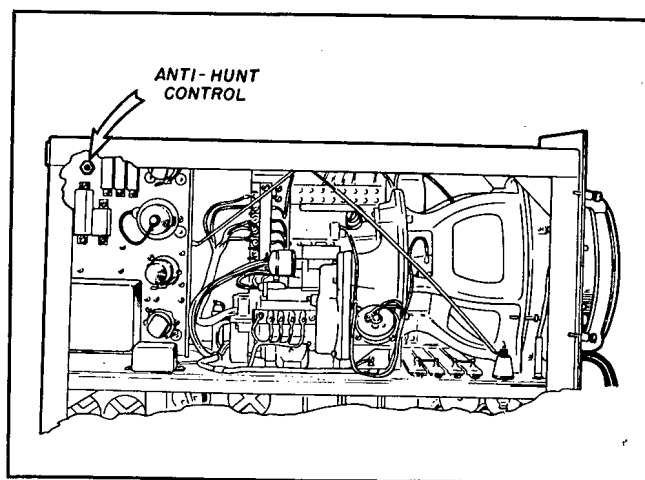

Figure 3-50. Anti-Hunt Control on PPI Indicator
(21) Adjust the anti-hunt potentiometer, R-590, for minimum amplitude on the oscilloscope. Lock the control. This control is shown in Fig. 3-50.
(22) Connect the test oscilloscope between test point J-528 and ground.
(23) Rotate the shaft of the drive motor until the amplitude of the 60-cycle pattern on the test oscilloscope is zero. Note the position of the trace on the PPI scope with respect to the azimuth scale.
(24) Rotate the drivemotor shaft until the trace has moved exactly one degree on the azimuth scale.
(25) Adjust the vertical amplifier on the test oscilloscope until the amplitude of the 60-cycle pattern is exactly two inches.
(26) Replace fuse F-501A and rotate the Antenna. The height of the test pattern should never be less than one inch, or one large square, during the rotation of the Antenna. This indicates that the bearing error at the Indicator does not exceed one-half of one degree.
(27) Watch the PPI sweep while the Antenna is rotating. Reverse the direction of the Antenna several times. The PPI trace should follow the Antenna